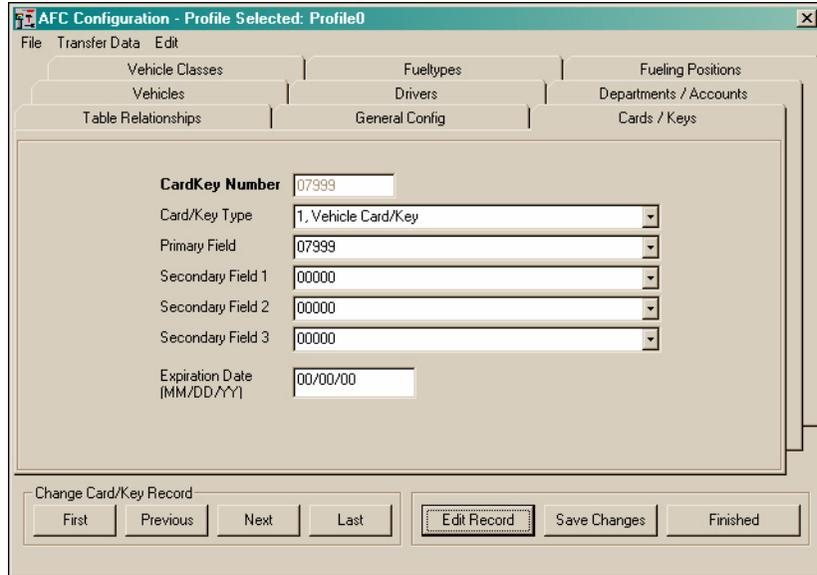

Figure 18: AFC CONFIGURATION - Cards/Keys Tab
The Cards/Keys table (*Figure 18*) lets you specify information about vehicle or driver cards/keys, such as the vehicle or driver number and the card/key expiration date. You may also search for, add or delete specific keys using the pull-down menus at the top of the window.
- Card/key type must be set to 1-Vehicle Key (*Figure 18* on page 34).
- Card/key type must be set to 2-Driver Key (*Figure 18* on page 34).